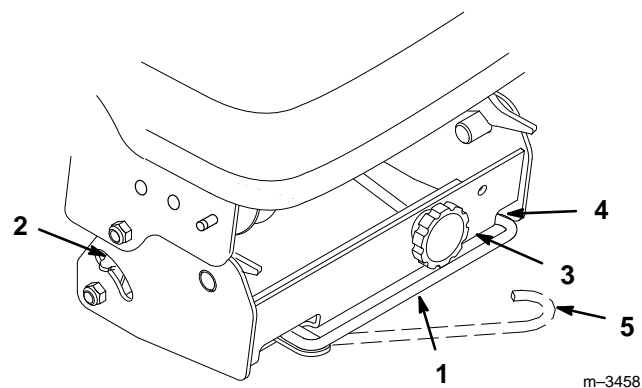

Figure 36
1. Check the tension indicators on each side of the pulley box. If the tension indicators are not in the same position on both the left and right sides, release the belt tension and turn the adjustment knob. Push the belt tension release arm back toward the pulley box to tension the belt (Fig. 36).